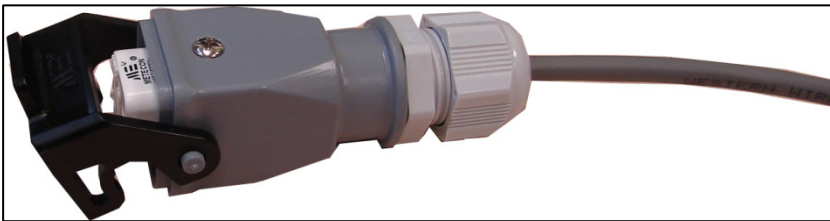

Figure 9: Wired Unit in Protective Cover
6. Place the wired connector back into the protective cover and place the retaining screw in place (Figure 9).